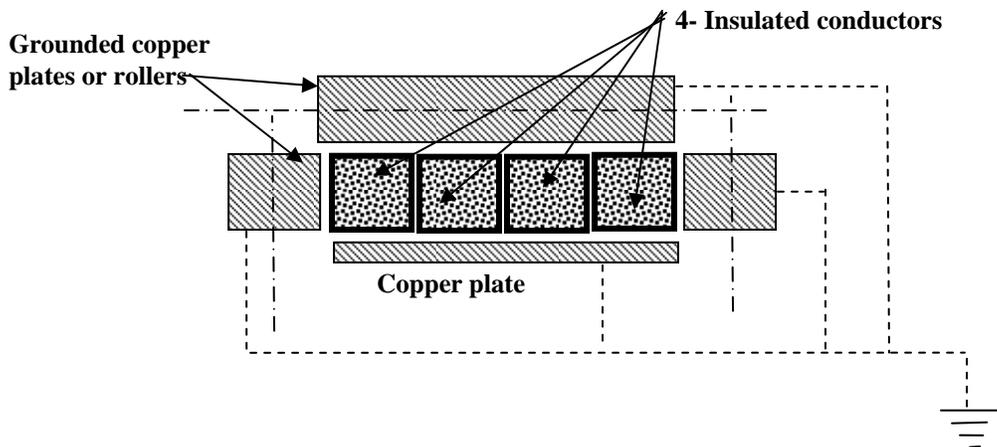

Figure 23-Schematic of Turn Insulation Tester
- 6.15.2 During the winding process, the pre-insulated copper rope conductors will be scanned with an electrical short indicator [“Whisker Detector”] that will identify any copper fibers that may protrude from the insulation causing turn to turn or turn to ground shorts. [Figure 23-Schematic of Turn Insulation Tester] If a copper whisker is detected, the whisker will be removed and one strip of adhesive backed Kapton tape will be wrapped around the conductor at the point where the whisker was detected prior to proceeding. After connecting all of the coil leads to the winding form with copper wire, test the unit prior to starting the initial winding operation on either side of the winding form.